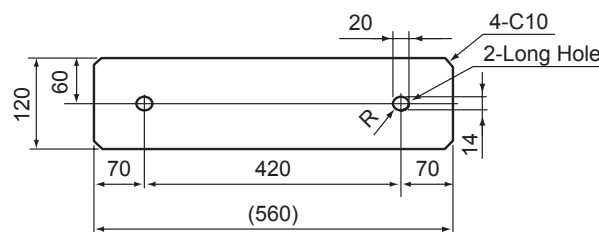

Fig. 4.10 Frame and Base Installation
- (5) When installing the unit on a roof or a veranda, drain water sometimes turns to ice in a cold morning. Therefore, avoid draining in an area where people often use because it is slippery.
- (6) In case of the drain piping is necessary for the outdoor unit, use the drain-kit (DC-01Q: Optional Parts).
- (7) The whole of the base of the outdoor unit should be installed on a foundation. When using vibration-proof mat, it should also be positioned the same way. When installing the outdoor unit on a field-supplied frame, use metal plates to adjust the frame width for stable installation as shown in Fig. 4.10.